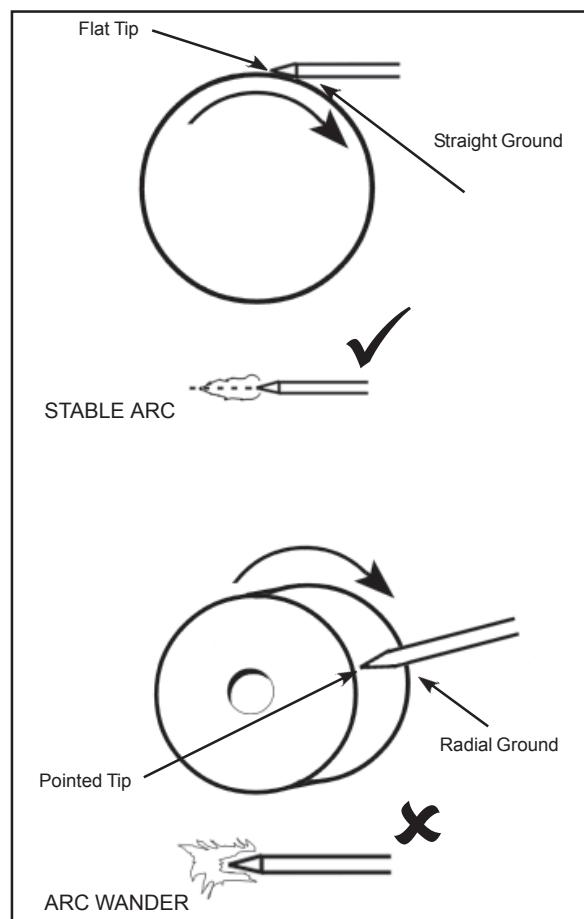

Figure 4 - Proper Electrode Grinding
3. Check the tungsten electrode tip is correctly ground, especially for DC applications, see Figure 4. To obtain a stable arc the electrode should be ground as shown. Use less sharp point for AC applications.